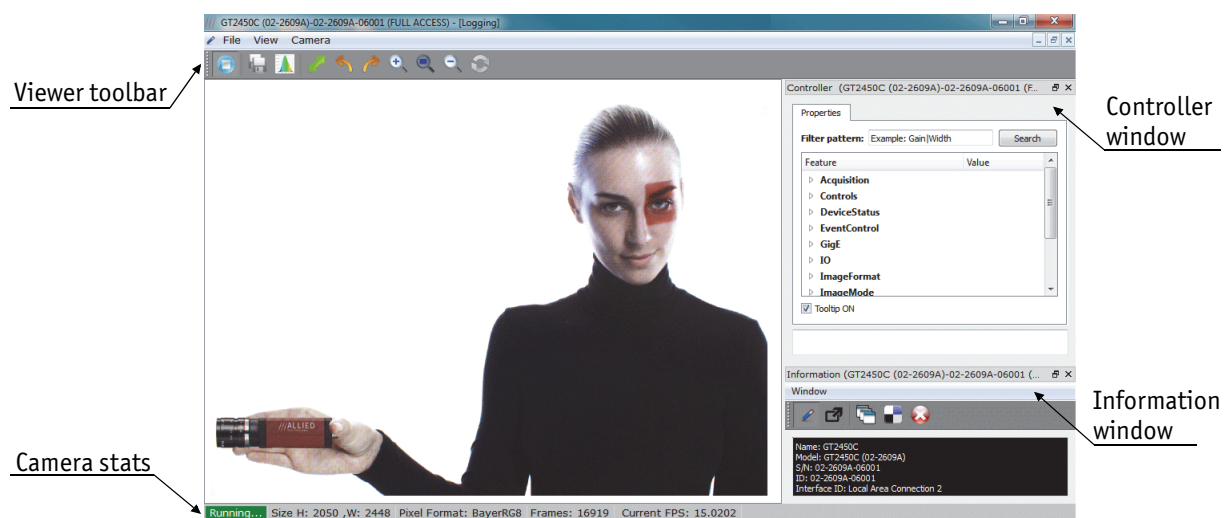

Figure 10: Camera window in VIMBA Viewer
- 3. A new camera window appears, as shown in figure 10. This camera window consists of the following components:
Press freerun button in the viewer toolbar, shown left. This starts continuous acquisition from the camera using default camera settings. It can be confirmed by stats at the bottom of camera window, as shown in figure 10. “Running” means continuous acquisition, whereas, “Ready” means camera is ready to acquire images. The freerun button is used to start/stop the live view.
The controller window, as shown in figure 10, is used to configure the camera frame rate, exposure time, color balance, imaging mode, strobe functionality, pixel format, and much more.